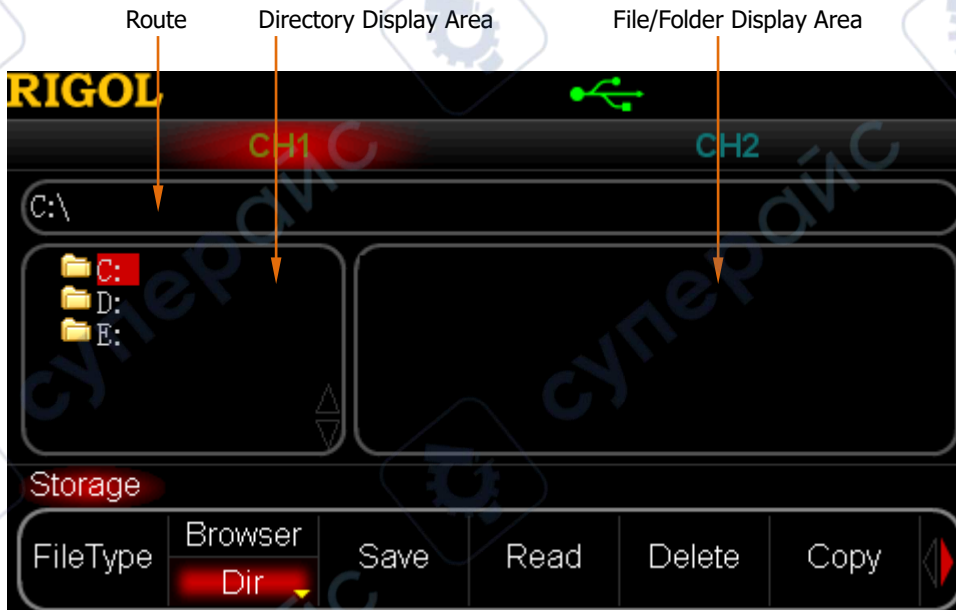

Figure 9-1 Store/Recall Interface
3. Press **Store/Recall** key at the front panel of DG5000 to enter Store/Recall interface. The model identifier of DS1000E will appear in the "Directory Display Area" (refer to Figure 9-1).